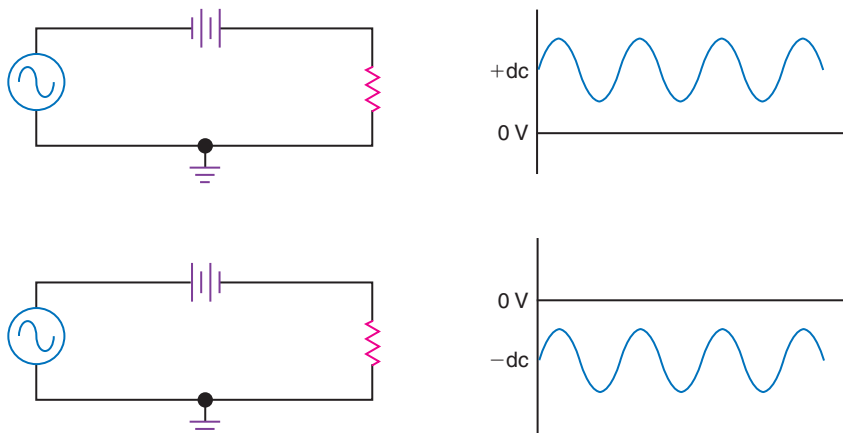

Fig. 1-9 Circuits with dc and ac sources.
Figure 1-9 shows examples of circuits containing both dc and ac components. A battery, a dc source, is connected in series with an ac source. The waveform across the resistor shows that both direct current and alternating current
are present. The waveform at the top in Fig. 1-9 shows a sine wave with an average value that is positive. The waveform below this shows a sine wave with a negative average value. The average value in both waveforms is called the *dc component of the waveform*, and it is equal to the battery voltage. Without the batteries, the waveforms would have an average value of 0 V.
17. Determine the average value of the bottom waveform shown in Fig. 1-9 if the battery develops 7.5 V.